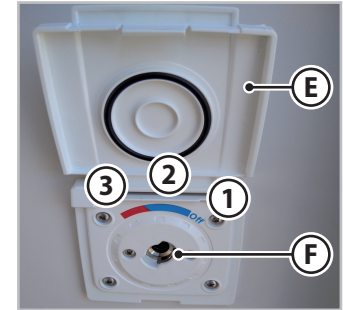

Fig.6.34 - Shower connection outlet
1. Lift the flap (**E** - Fig.6.34).
2. Insert the hose supplied into the attachment (**F** - Fig.6.34).